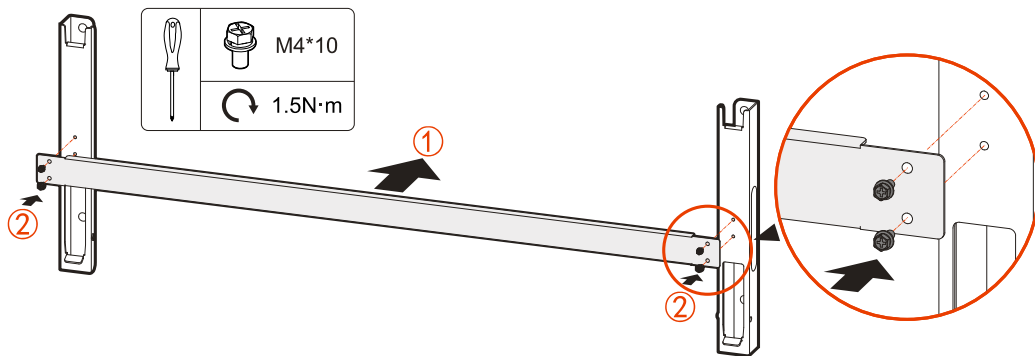

Figure3-11 Assemble installation holder
- Step 1 Use the four M4*10 combination bolts in accessories to fix the installation holder with the joint lever, as shown in Figure3-11.